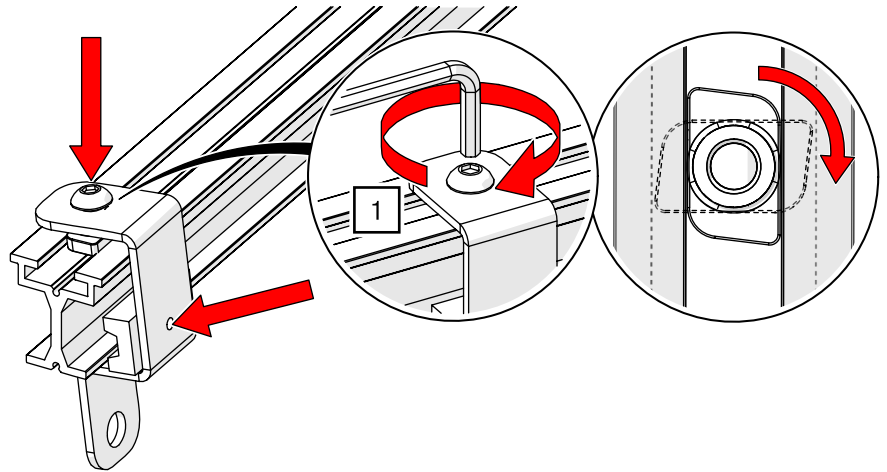

Fig. 52: TRUMPF 95 end stop – Mounting the end stop
1. Hang the pre-assembled end stop in the track profile and tighten the screw with slot nut using an Allen key AF 5 and 27 Nm (see Fig. 52).